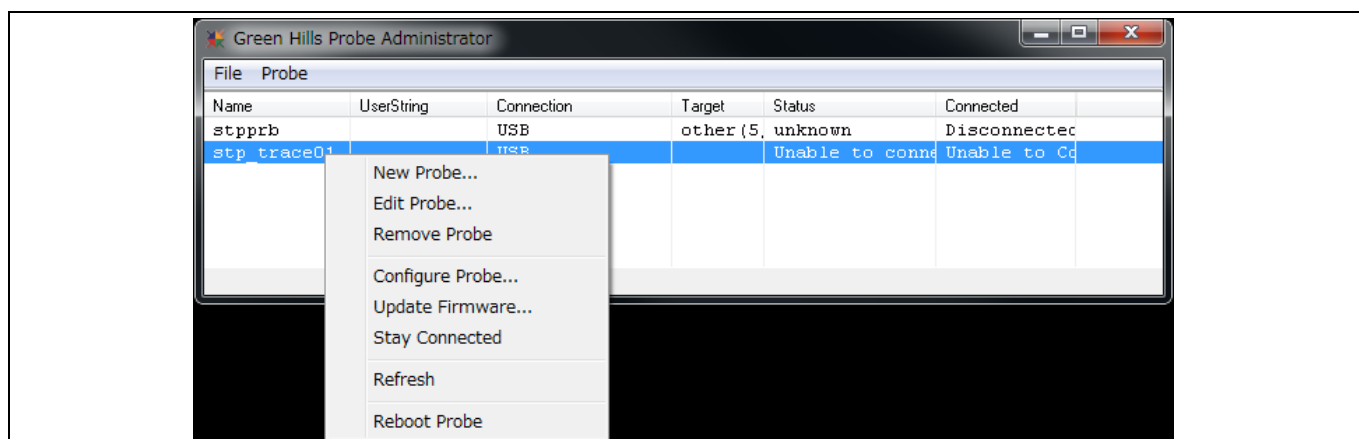

Figure 9 Update firmware startup
5. Right-click the entry name and select **Update Firmware...**, as shown in **Figure 9**. Then select an *.frm file, for example, *pbv3_firmware_5.0.8.frm*.